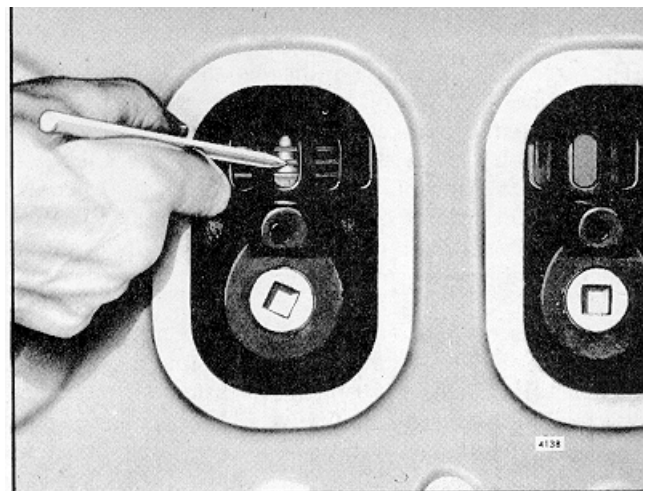

Fig. 3 Inspecting Piston Rings
- A. Piston rings may be stuck or broken. To determine the condition of the rings, remove the air box cover and inspect them by pressing on the rings with a blunt tool (Fig. 3). A broken or stuck ring will not have a "spring-like" action.